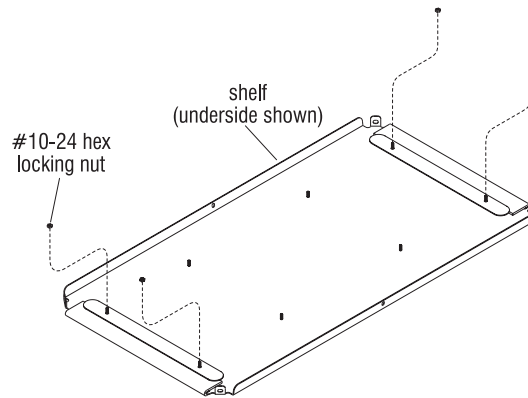

Figure 5
1. Flip the un-installed shelf over onto a soft protective surface to access the factory installed #10-24 hex locking nuts (Figure 5).